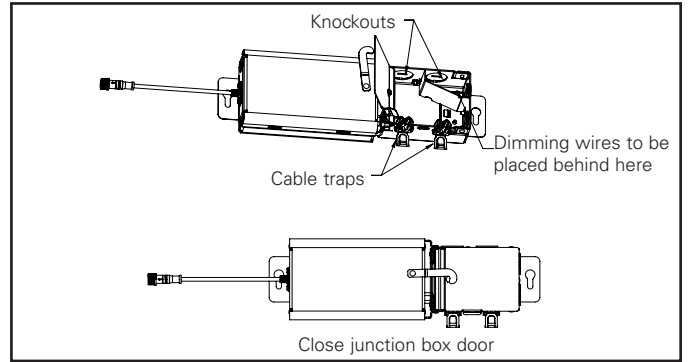

Figure 2.
2. Wire connections should be done below the ceiling using a conduit fitting or slide-n-side on the side of the junction box. Upon completion, shut the junction box door. (see Figure 2).